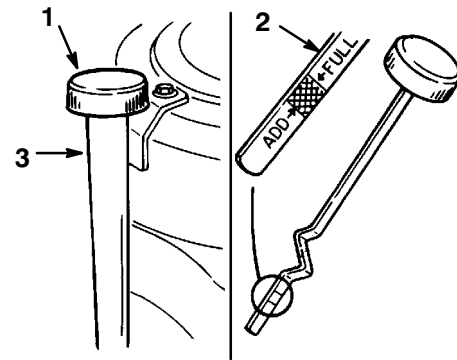

Figure 22
2. Clean around the oil dipstick (Fig. 22) so dirt cannot fall into the filler hole and damage the engine.
3. Unscrew the oil dipstick and wipe the metal end clean (Fig. 22).
4. Slide the oil dipstick fully into the filler tube, do not thread onto tube (Fig. 22). Pull the dipstick out and look at the metal end. If oil level is low, slowly pour only enough oil into the filler tube to raise the level to the "FULL" mark.
5. Slowly pour approximately 80% of the specified amount of oil specified, page 21, into the filler tube (Fig. 22). Now check the oil level; refer to Checking Oil Level, page 21. Slowly add additional oil to bring to "FULL" mark on dipstick.